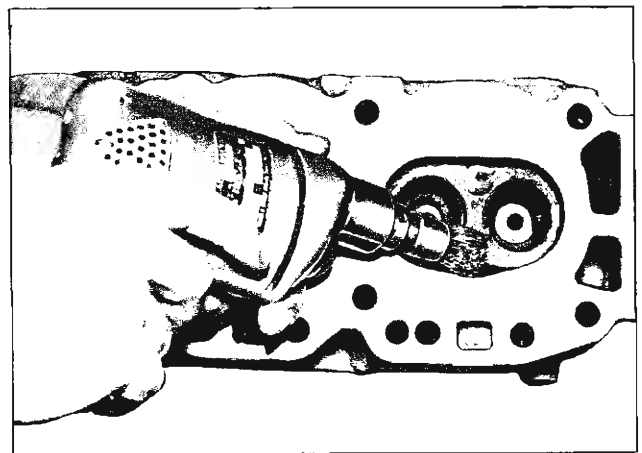

Fig. 10—Removing Carbon from Combustion Chamber
1. Clean all carbon from combustion chambers and valve ports using Tool J-8089 (fig. 10).